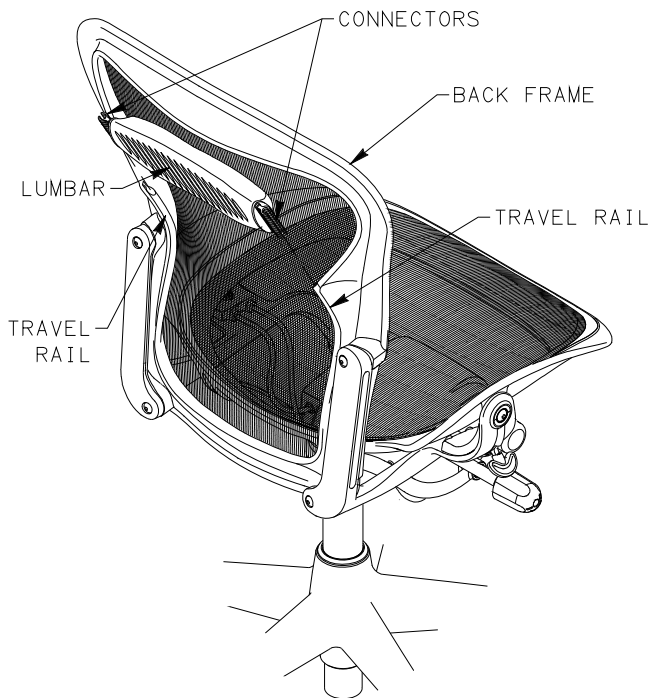

FIGURE 1
5. IF CHAIR IS EQUIPPED WITH LUMBAR, ATTACH LUMBAR TO BACK FRAME BY ENGAGING EACH CONNECTOR ON LUMBAR TO TRAVEL RAILS OF BACK FRAME AND SLIDING DOWN. SEE FIGURE 1.